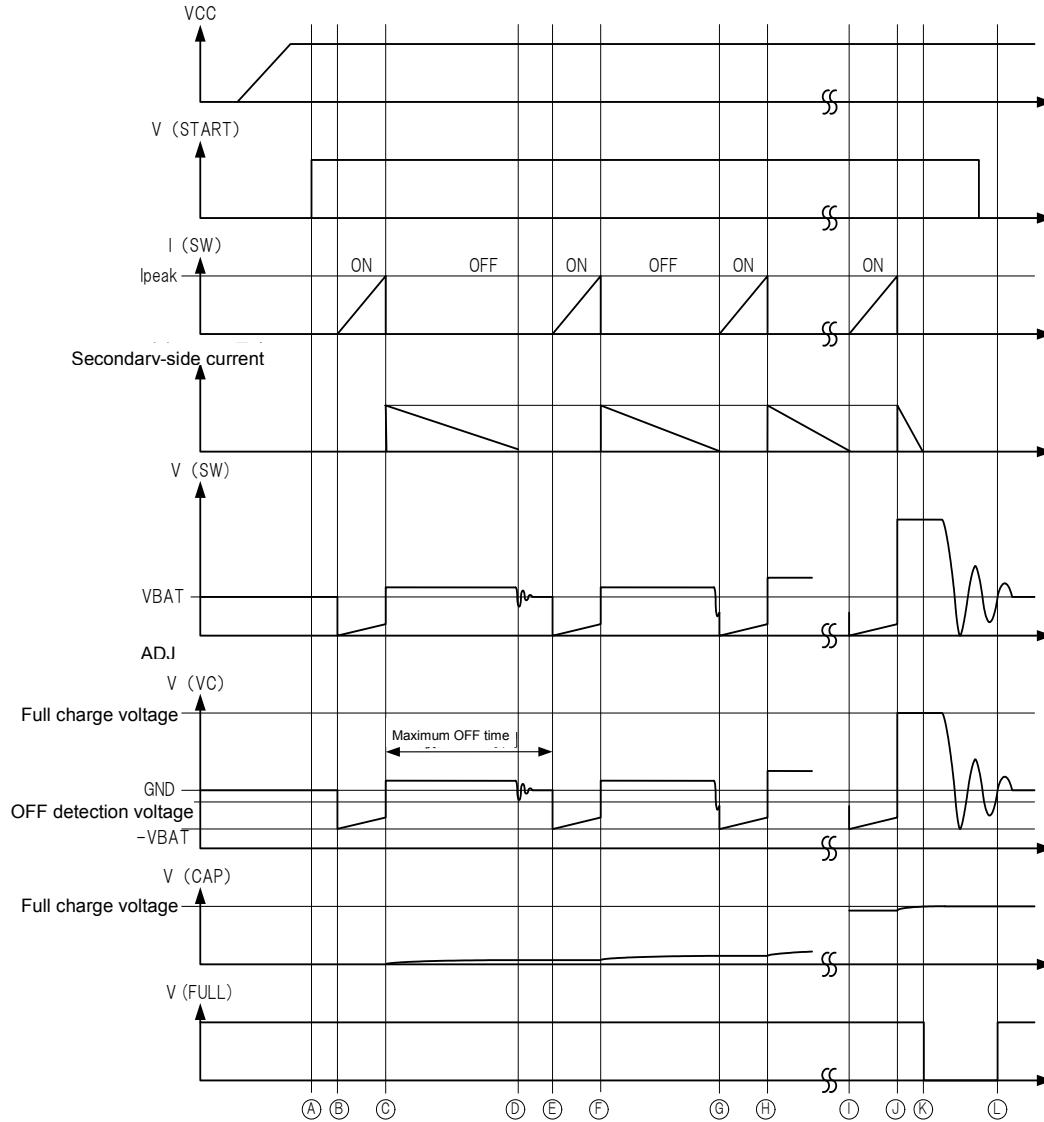

Fig 34. Timing Chart 2: Switching Operation
The switching operation of this IC is shown in Fig.34 Timing Chart 2.
If the START pin is set to "H", all internal circuits are reset, the internal PowerTr is turned ON. (See Fig 34. Time ④→⑤.) While the internal PowerTr is turned ON, a current is passed into the SW pin. When the current specified at the RADJ pin voltage is reached, the PowerTr is turned OFF. (See Time ③ in Fig 34.) The time t_{ON} when the PowerTr is ON is indicated as follows:
When the energy release to the transformer secondary-side is completed, the VC pin voltage and the SW pin voltage produce resonance by the parasitic capacitance and the transformer inductance. (See Time ④ in Fig 34) At this time, unless the VC pin voltage becomes the GND voltage or less shown, the PowerTr remains OFF till the maximum OFF time is reached. (See Time ⑤ in Fig 34) As soon as the OFF detection voltage or less is reached, the PowerTr is turned ON. (See Time ⑥ in Fig 34) The time, t_{OFF} when the secondary-side releases energy is represented by the following equation:
When it is detected that the internal PowerTr is left OFF for over the maximum OFF time specified in the electrical characteristics, the PowerTr is forced to be turned ON. This occurs unless the VC pin voltage becomes the OFF detection voltage specified in the electrical characteristics or less. (See Time Ⓒ in Fig 34)
VC pin node is divided by between transformer Secondary node and Fast recovery diode anode side by resistor R_{FB1} , R_{FB2} and R_{FB3} . When VC pin voltage reach until full charge voltage as Fig.34 timing chart ①~④, charge is stopped.